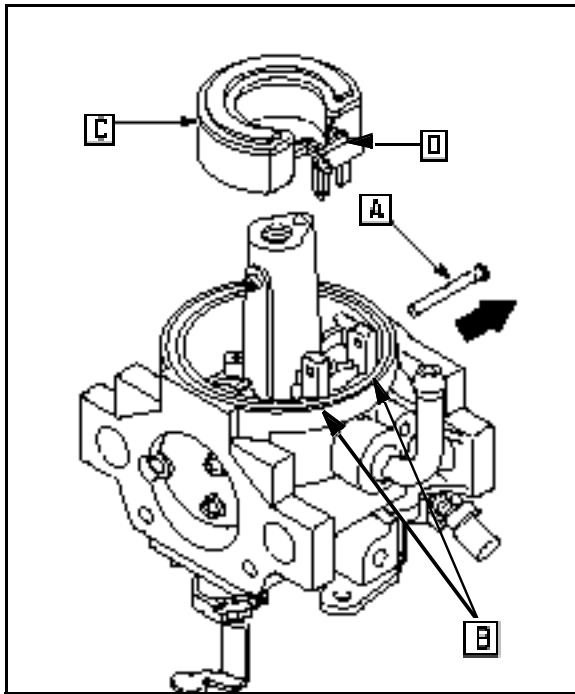

Fig. 53
3. Push float hinge pin (A) out of the hinge posts (B). Remove float (C) and needle assembly (D) Fig. 53.
4. The float hinge pin (A) Fig. 53 is a slip fit.